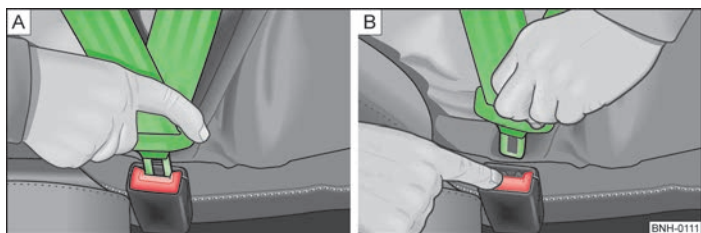

Fig. 96 Fastening/unfastening the seat belt
- Insert the lock tongue into the belt buckle » [Fig. 96 - \[A\]](#) that is part of the seat until it clicks into place.
- Press the red button in the belt buckle » [Fig. 96 - \[B\]](#), the lock tongue pops out.